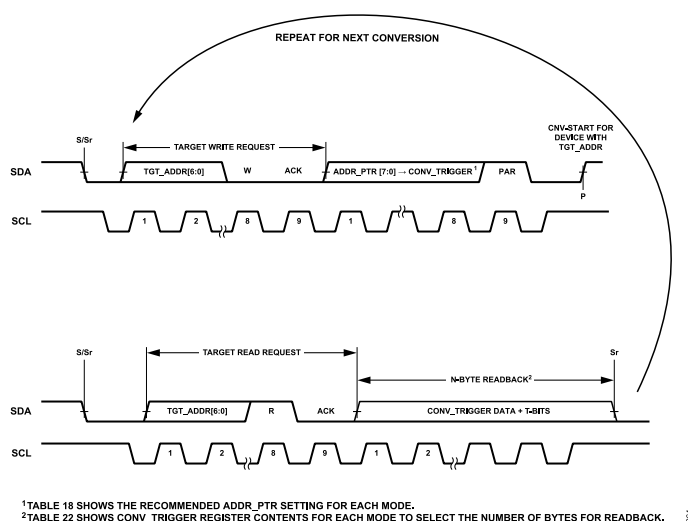

Figure 64. Using CONV_TRIGGER to trigger ADC conversions
To trigger an ADC conversion using the CONV_TRIGGER register, perform an I3C write to the target device, and update the ADDR_PTR to point to any of the register addresses of CONV_TRIGGER (0x56 to 0x59). The convert-start trigger occurs on the SDA rising edge of the stop (P) as shown in Figure 64. In sample mode, the convert-start trigger results in a single conversion. In burst averaging mode, the convert-start trigger results in a